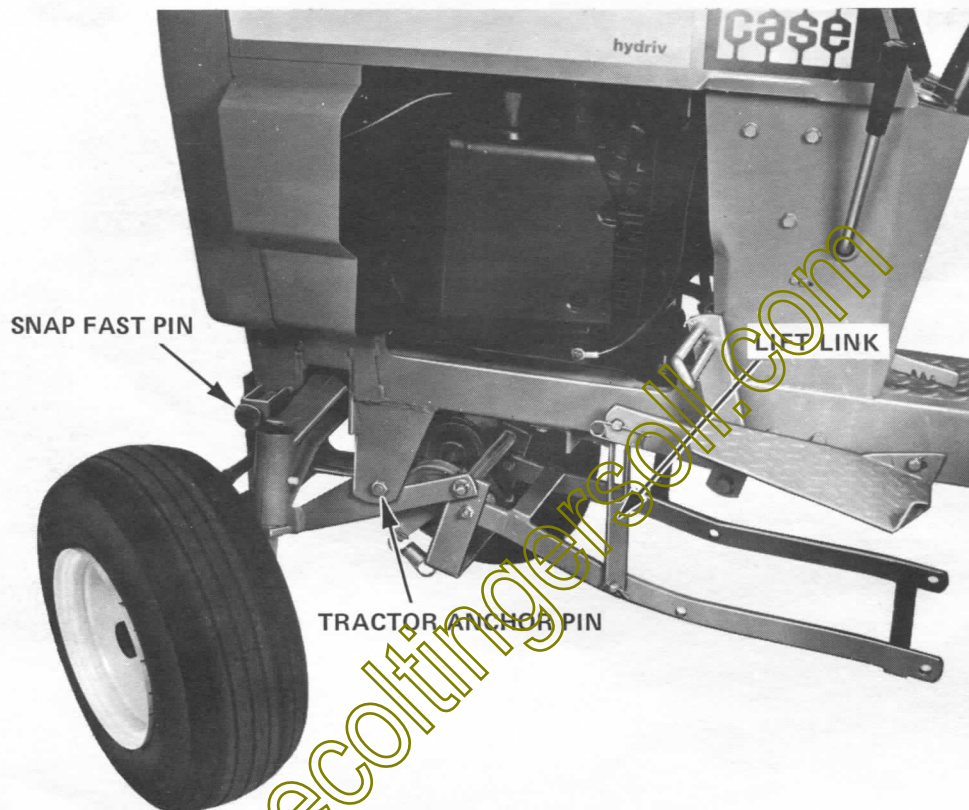

FIGURE 15 MOUNTING THE J-46 MOWER MOUNTING BRACKET
3. Position the mounting bracket under the front of the tractor and onto the anchor pins as shown in Figure 15. Raise the front of the bracket and release the snap fast pins to lock in place.
stall plain washer on each clevis pin and install in the front hole of the lift arm from the inside. Secure the links with the safety pins at the outside. Refer to Figure 15.